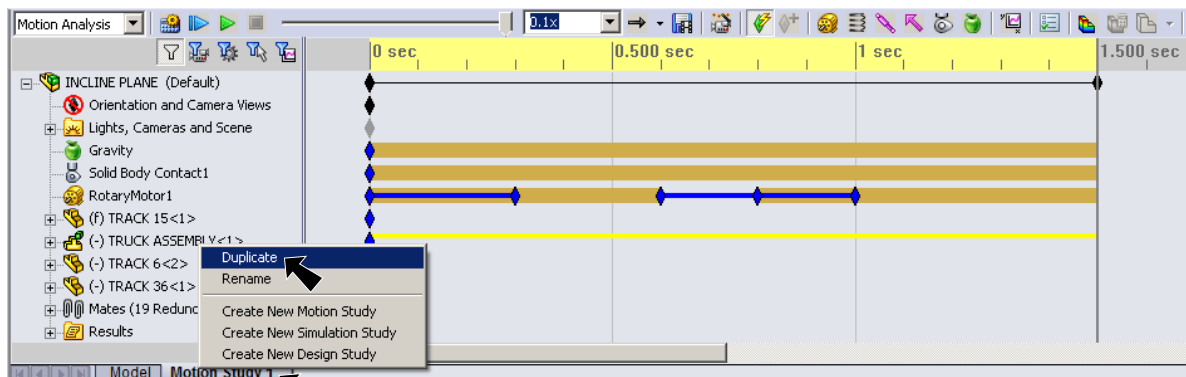

Fig. 3
Step 1. **Right click Motion Study 1 tab** **Motion Study 1** at the lower left of the drawing area and click **Duplicate**, **Fig. 3**.